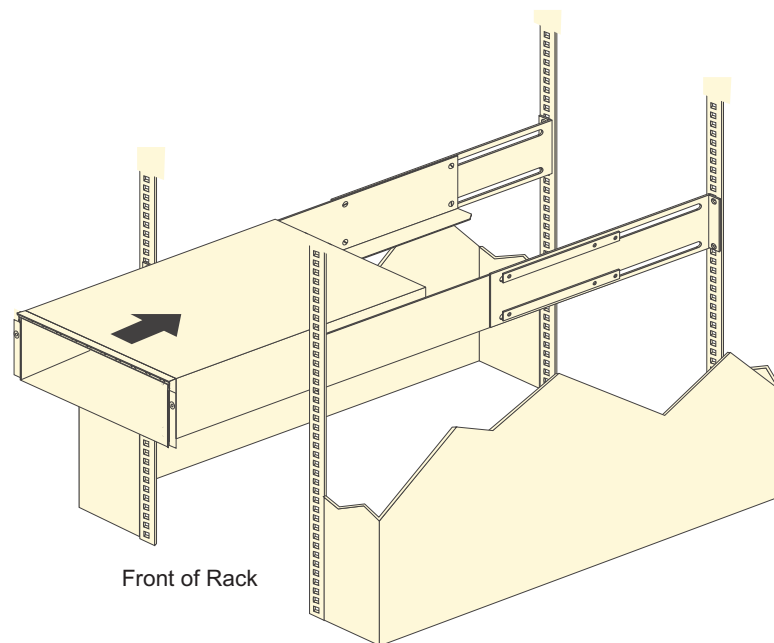

Figure 12. Installing the EXP395
- b. With help from another person, place the back of the storage expansion enclosure on the support rails, and then slide the unit into the rack as shown in Figure 12.